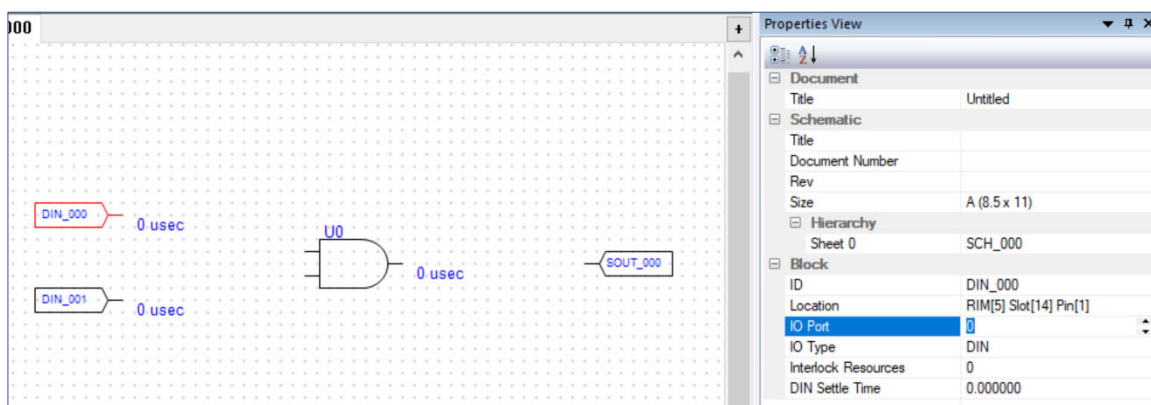
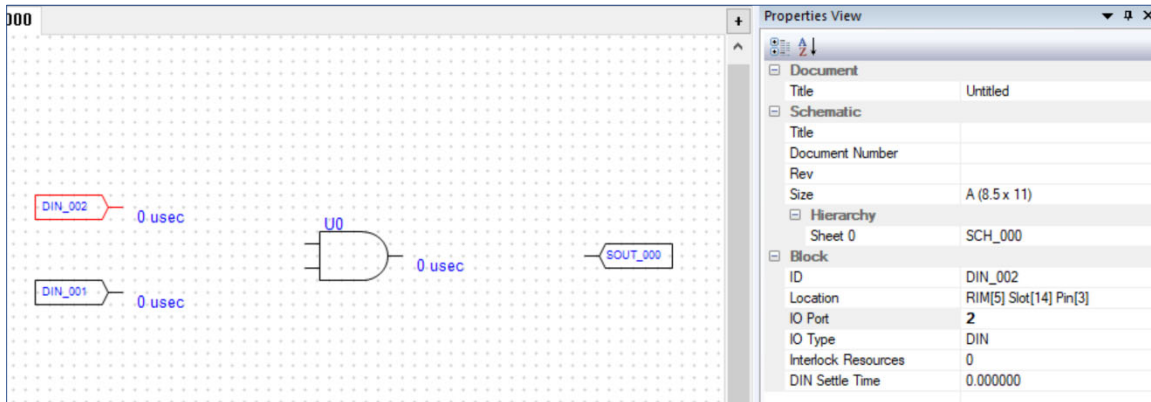

Figure 38 - Properties of Selected DIN Port
Figure 39 - DIN Port Reassigned to IO Port 2
- 2) Change the IO Port properties of each DIN and SOUT port by clicking each IO Port block (Figure 38 - Properties of Selected DIN Port) then changing its IO Port property (Figure 39 - DIN Port Reassigned to IO Port 2). Use the System View to reference which channel ID goes to which RIM Slot Pin when determining which IO Port number you want to use within your schematic. IO Port numbers to use for this example are described here: